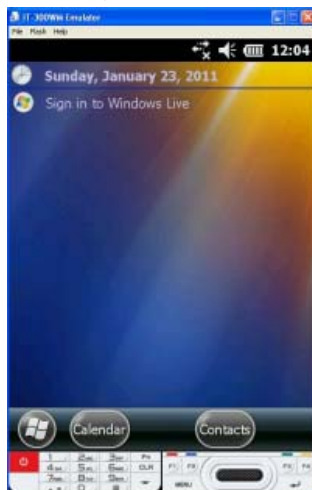

Figure 7.16
3. Make sure ActiveSync has started up and the  icon in the status bar changes to the  icon. See the emulated screen of IT-300WM in Figure 7.16. The icon indicates that the connection via ActiveSync has been established.